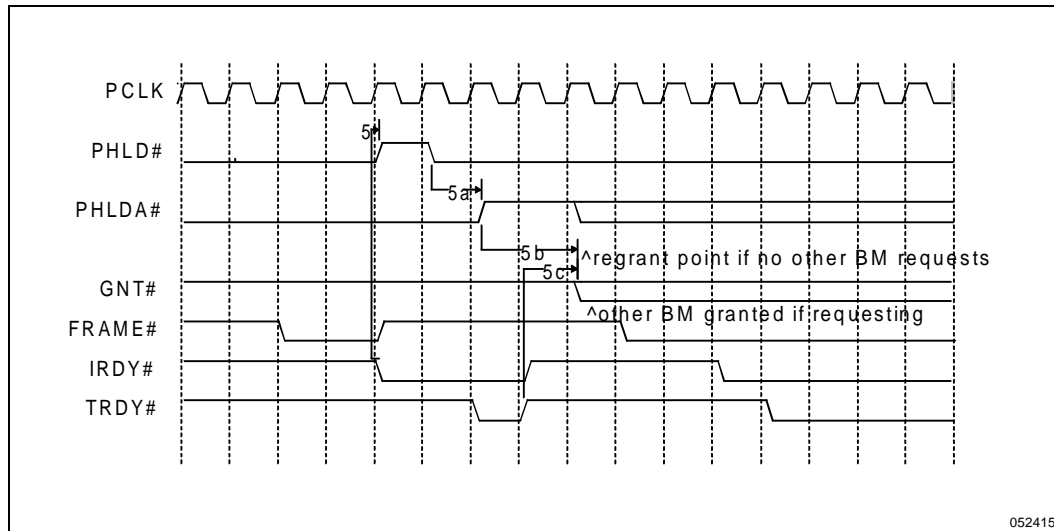

Figure 15. PHLD# and Passive Release
6. **Active bus release** requires a minimum PHLD# negation time of 2 PCLKs (Figure 15 PHLD# Assertion/Negation Rules).